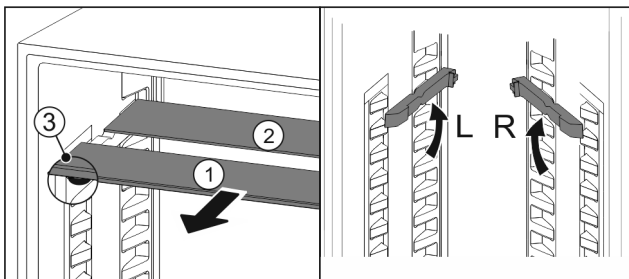

Fig. 112
- ▶ Pull the glass panels out Fig. 112 (1) from the front, one at a time.
- ▶ The glass panel Fig. 112 (1) and trim strip are at the front.
- ▶ The stops Fig. 112 (3) point down.